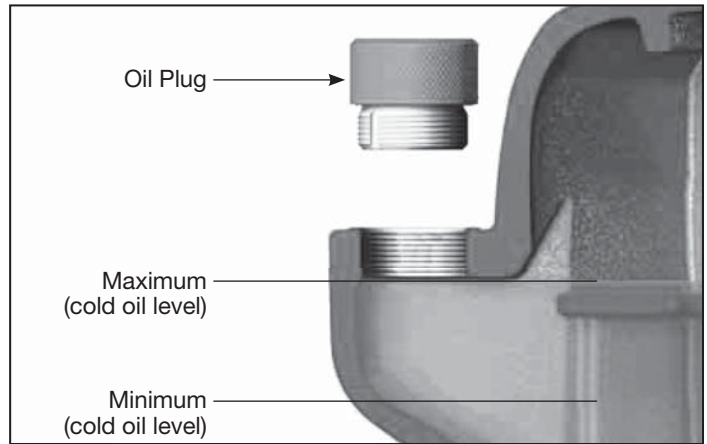

Figure 7 - Oil Level
THIS UNIT CONTAINS OIL. Before operating compressor, check oil level (see Figure 7).
Oil Level Check (See Figure 7)
5. If necessary, top off oil of the same oil type and the same brand up to the maximum level (see Figure 7 and Lubrication section).
1. Check oil level (See Figure 7).